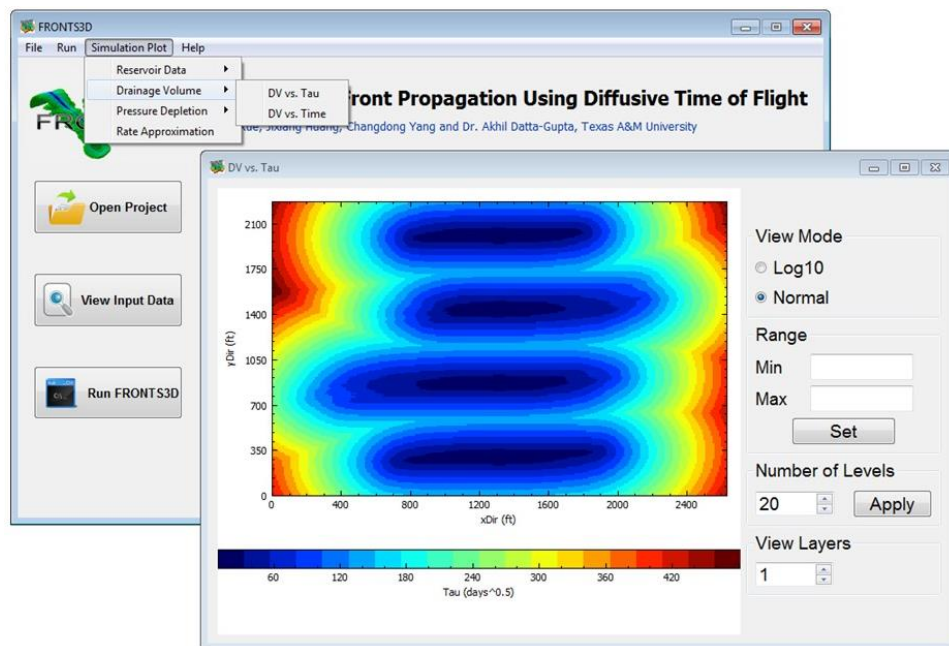

Figure 8. Select and View Drainage Volume
- b. Click Simulation Plot → Drainage Volume, you can view DV vs. Tau or Time. (**Figure 8**).